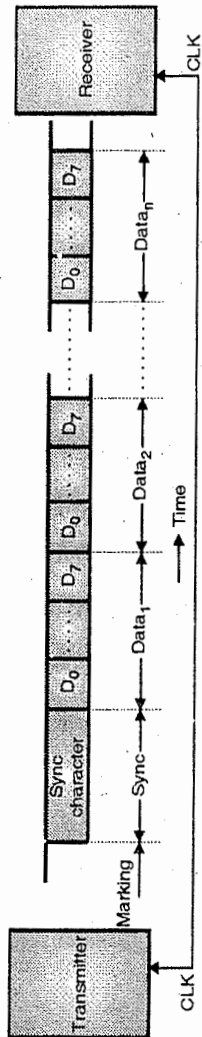

Fig. 12.2.2 : Synchronous data format
- Packet of data is of size 'n'. The data bytes in a block are transferred one after the other. As shown in Fig. 12.2.2  $D_0$  to  $D_7$  data bits of  $data_1, data_2, \dots, data_n$ ; is transferred serially.
- The sync character may be any digital bit pattern which is used for transmitter and receiver. Refer Fig. 12.2.2.